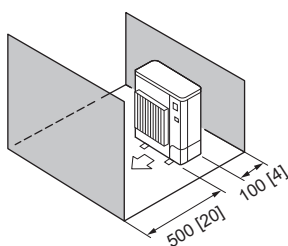

Fig. 2-10
5. Obstacles at front and rear only (Fig. 2-10)